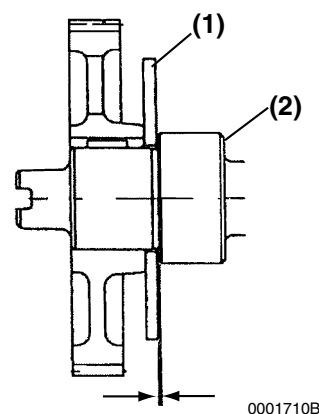

Figure 6-93
- **Method B:** Use a feeler gauge to measure the clearance between the thrust plate (**Figure 6-93, (1)**) and front camshaft bearing (**Figure 6-93, (2)**). See *Thrust Bearing* on page 6-14 for the service limit.